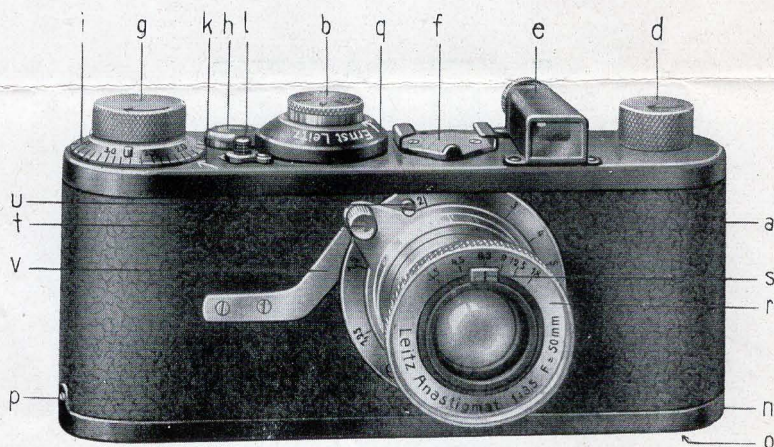

Fig. 1 ( $\frac{2}{3}$  act. size)
The focal plane shutter is contained within the middle portion of the camera casing *a* (Figs. 1 and 2), which is made of light metal and rounded at the ends. The shutter winds under cover, it runs immediately in front of the film window, and has a slit setting knob *b*, which can be actuated from without.
The **lens mount *r*** (Figs. 1 and 2) is on one side of the camera casing. It may be readily withdrawn and locked by its rotation to the right. When withdrawing it, it should be noted that the index line on the mount should roughly coincide with one of the three short index lines.
The **diaphragm** is actuated solely by the lug *s* (Fig. 1). The rapidities can be read off. The relative times of exposure at different aperture ratios are as follows:
**Focussing to distance** is obtained by turning the mount by the handle *t* (Fig. 1), the distance being shown by an index. The range of the motion is determined by a limit stop *u*. The handle *t* is held in the infinity position ( $\infty$ ) by a spring catch *v* and prevents any unintentional departure from this position. The spring catch is only released when photographing near objects, the lens handle being then disengaged for setting for distances within 10 yards.
4. **Take out film (Daylight).** Figs. 1 to 3. Turn  $l$  to R, keep  $h$  pressed down, turn  $d$  till checked, overwind (which causes the film end to be released from the spool slit) and give five further turns, set swivel to 'open', open cover  $n$  (spring  $c^5$  should engage at Z), draw out the film holder  $c$  by the knurled knob.